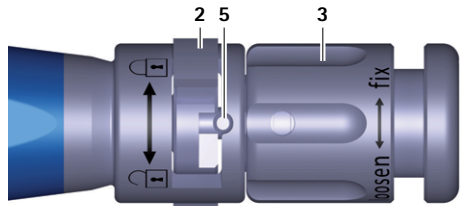

Fig. 4 Close-up view of the insertion instrument, trial implant/implant clamped
- Turn the rotary nut 3 on the insertion instrument A clockwise ("fix" direction) until the trial implant is clamped, see Fig. 4.
- Turn the rotary nut **3** on the insertion instrument **A** clockwise (direction: "fix"), until the implant is clamped, see Fig. 4.